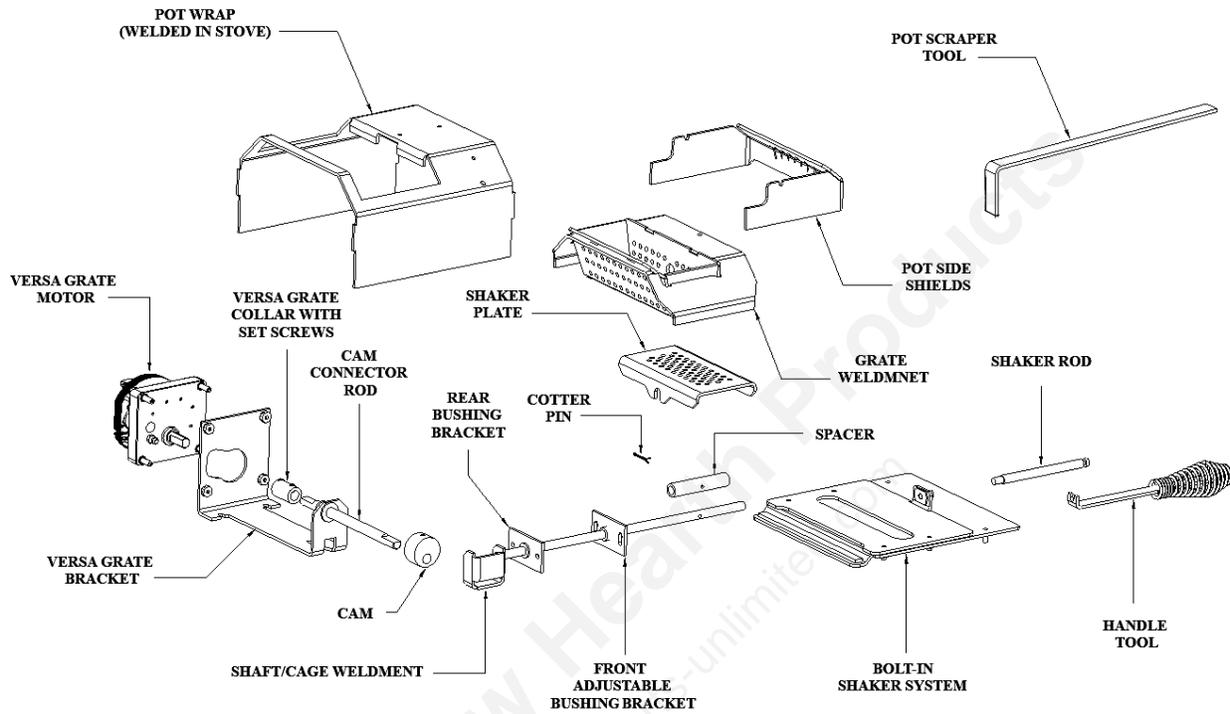

Figure 23
This feature allows the stove to operate for longer periods of time without the grate requiring cleaning. If the flame becomes dark orange, is accompanied by black smoke or burns with a lazy motion - it's time to clean the grate. Frequency of cleaning depends on the amount of fuel being burnt and the quality of the Fuel. Poor quality fuel will require more frequent cleaning of the Versa Grate System shown in figure 23.
1. Check Grate, Shaker Plate and Shaker Media (See figure 23 on the following page (*the Shaker Media is not shown*)) to determine if holes are getting plugged and clean as needed. With proper precautions the grate may be partially cleaned while the stove is hot. Follow these steps:
- d. Use the “Pot Scraper tool” provided to move the burning pellets and Shaker Media to one side of the grate, checking the holes in the bottom of the grate. (See Fig 23)